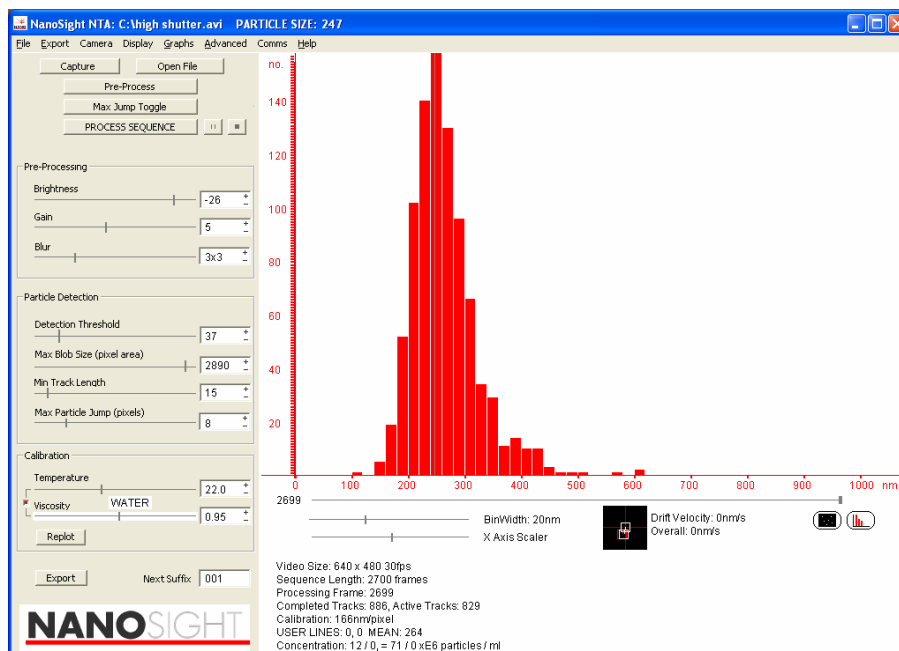

Figure 24: Particle distribution produced by a high shutter capture.
As can be seen from Figure 24 the modal value calculated by the analysis is too high due to the excessive shutter used to capture the image. As a general rule, the shutter should be
As can be seen from the above image particles in the order of 30nm scatter light very poorly and as a result the image produced is very dim. Gold is an effective scatter of light and hence gold particles will appear brighter than a similarly sized particle of a low refractive index. Using the camera controls the particles can be made to appear brighter than in the image above, however the accuracy of the results may suffer. The above image has been captured at maximum **Gain (680)** and a moderate **Shutter** speed (**480**). By increasing the shutter to maximum the particles could be made to appear brighter however particle blurring would occur and the result would suffer as in Figure 24. The image should therefore be captured such that the particles appear fairly dim, as above, and then the image can be gained in the image processing part of the analysis.